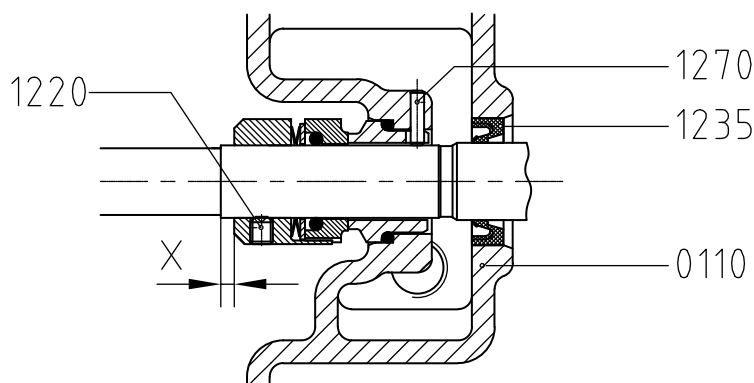

Figure 10: Adjusting the mechanical seal M7N.
- 6 Adjust the rotating part of the mechanical seal to distance X (see figure 10 and corresponding table) and lock it by fixing the set screw (1220).